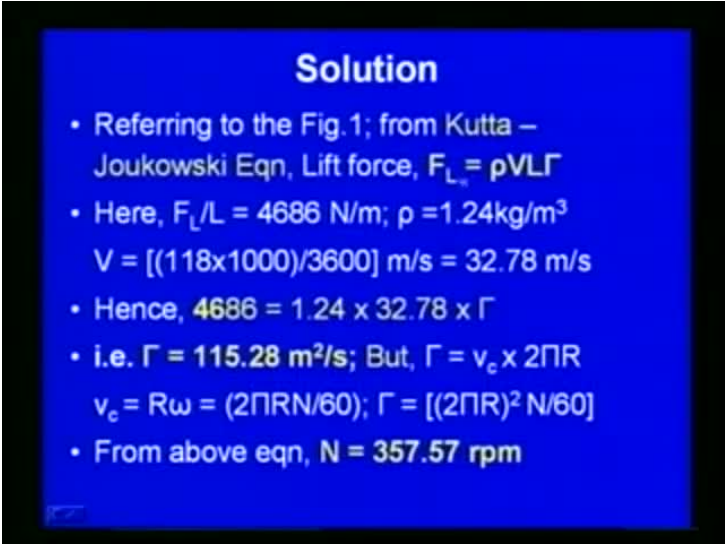

Fig.1
- Referring to the Fig.1; from Kutta – Joukowski Eqn, Lift force,  $F_L = \rho V L \Gamma$